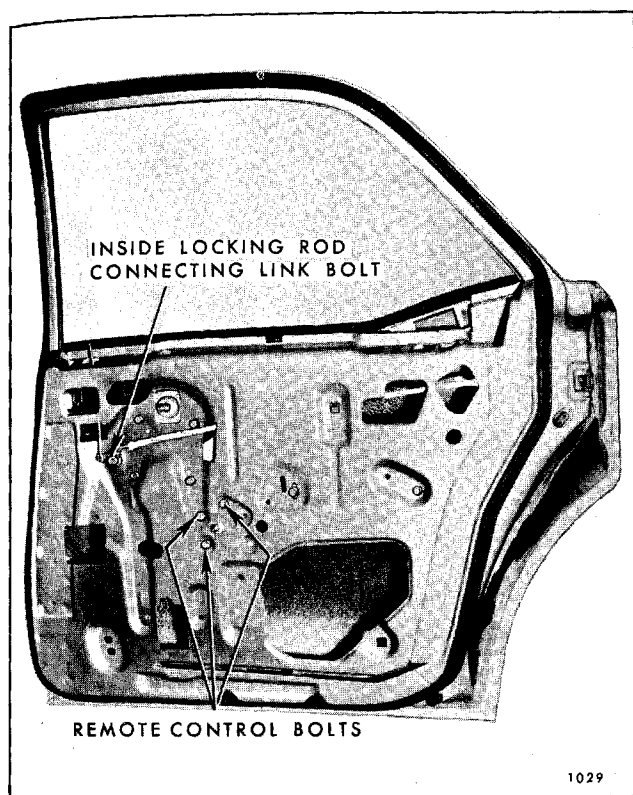

Fig. 7-120—Door Lock Remote Control - "B" Style
The remote control is secured to the door inner panel by three attaching bolts. On some styles it is mounted on the inboard surface of the door inner panel, and, on others, on the outboard surface. Figure 7-120 identifies "B" style installation, other styles are similar.
2. Remove remote control attaching bolts (Fig. 7-120).
3. Remove inside locking rod to lock connecting rod link attaching bolt (Fig. 7-120).